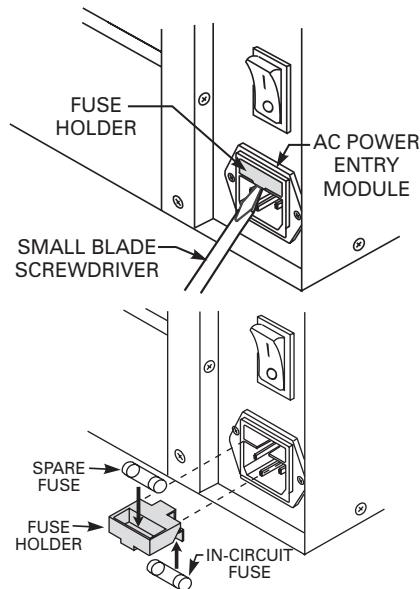
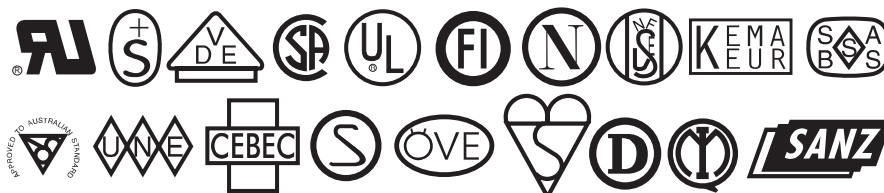

Figure 5.23 AC Power Fuse Replacement
Figure 5.24 International Safety Organizations
The XiII-Series printer uses a metric-style fuse (5 x 20 mm IEC) rated at F5A, 250V. The AC Power Entry Module comes with two approved fuses in the Fuse Holder: one is “In-Circuit” and the second is provided as a “spare” (refer to Figure 5.23 below). The end caps of the fuse must bear the certification mark of a known international safety organization (refer to Figure 5.24). To replace a faulty fuse, use the following procedure.
1. Refer to Figure 5.23. Using a small blade screwdriver or similar tool, remove the Fuse Holder which is part of the AC Power Entry Module at the rear of the printer.